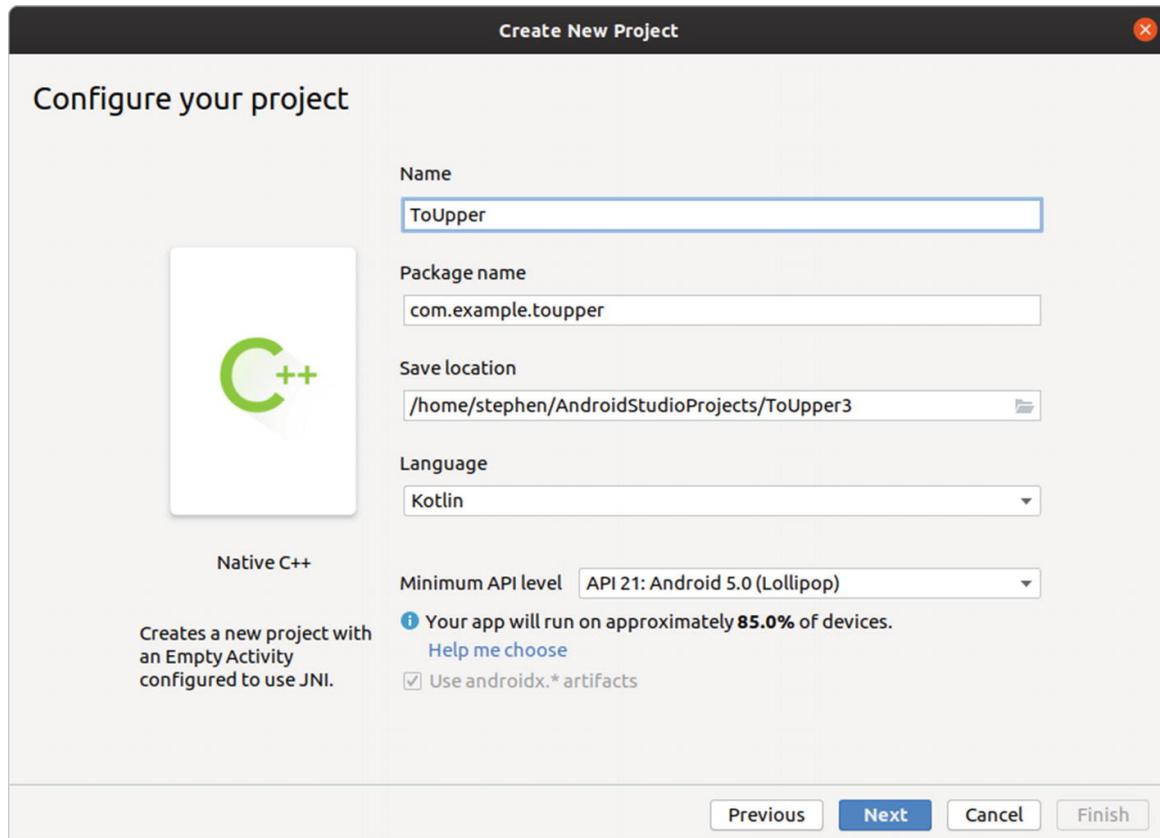

Figure 10-2 Second screen in the new project wizard
3. On the next dialog box, choose our project name, in our case “ToUpper”; keep the language as Kotlin and select “API21: Android 5.0 (Lollipop)” as the minimum API level. I chose this API level since it is the first one with 64-bit support. You may need to choose a different version depending on your requirements, as shown in Figure 10-2.